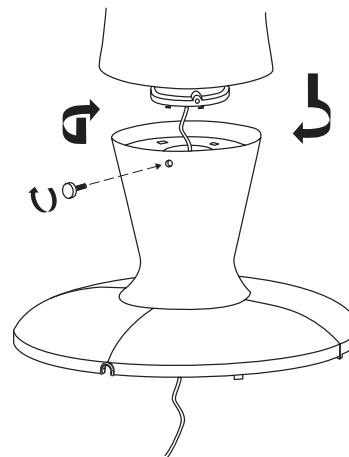

Fig. 7
- Align the pedestal with the tower fan so that the one locking screw hole on the pedestal body is aligned with the rear of the tower fan unit. Firmly hold the base steady and rotate the pedestal assembly clockwise to lock the tower fan to the pedestal assembly (Fig. 7).